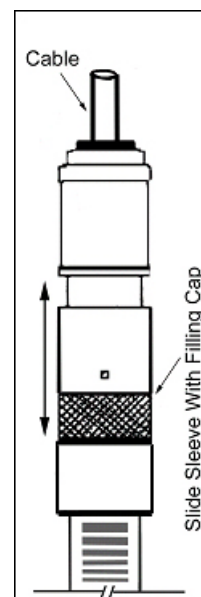

Figure 2:Reference Fill Cap
- a. Slide the sleeve of the electrode cap down to uncover the fill hole (see Figure 2)
The filling hole must remain open during measurements (see Figure 2).